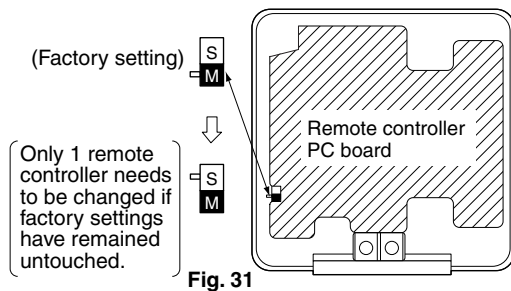

Fig. 31
- Turn the MAIN/SUB changeover switch on one of the 2 remote controllers PC boards to "S". (Leave the switch of the other remote controllers set to "M".) (Refer to Fig. 31)